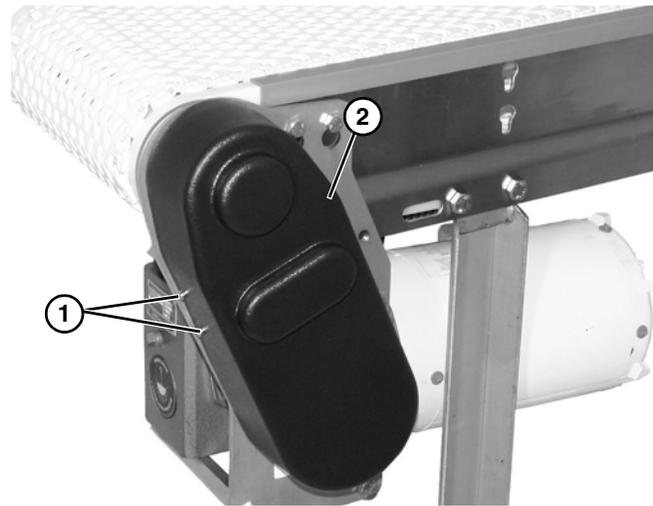

Figure 17
6. Install cover (Figure 17, item 2) with four bolts (Figure 17, item 1).